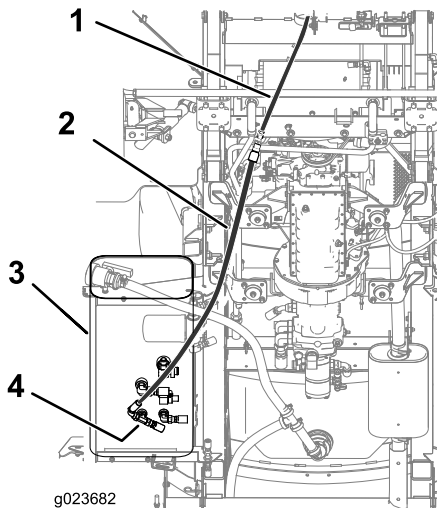

Figure 3
- 4. Connect the hydraulic hose to the hose from this kit (Figure 3).
- 5. Remove the hose currently installed on the hydraulic tank in the location where it shows the tee fitting in Figure 3.
- 6. Replace the fitting in that location with the tee fitting and install the hose removed in the previous step and the hose from the kit (Figure 3).